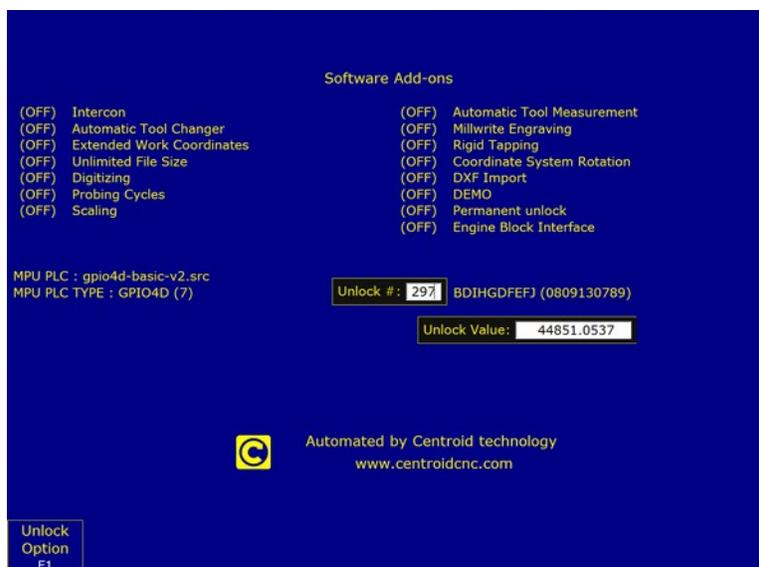

Figure 4.1.1
1. **Enter your Software Unlock Demo Code** To enter a software unlock press **F1-Unlock Option**. In “Enter Unlock #:” enter **297** for demos or 298 for permanent unlocks as shown on your unlock sheet. This will display the Unlock Value window as shown in Figure 4.1.1. Look at the value in the “Software Unlocks” sheet that shipped with control. Enter the value next to the unlock number.